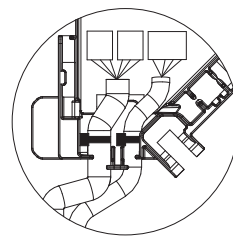

Fig. 10-15
- Make sure that the band securing the i-see Sensor and signal receiver junction wires is positioned inside the connector box. (Fig. 10-15)